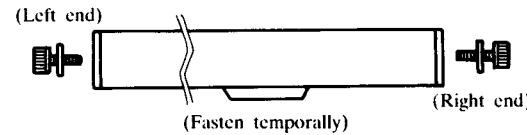

Fig. 84
- (5) Mount the right and left cover with the bolt (5×25) with the washer (Fasten temporally) (Refer to Fig. 84)